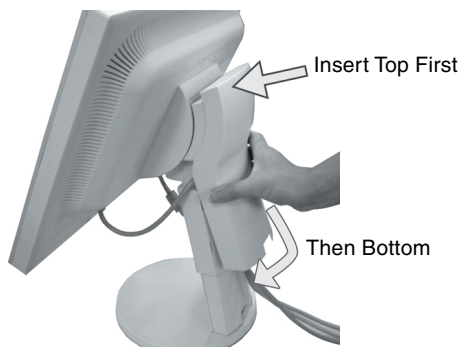

Figure D.1
9. Hold the all cables firmly and place the cable cover onto the stand (**Figure D.1**).